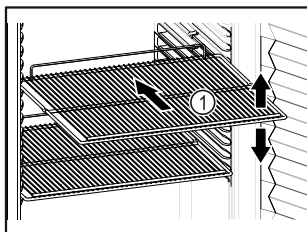

Fig. 50 Example illustration
- ❑ If storage surfaces *Fig. 50 (1)* are movable, adjust them according to height.